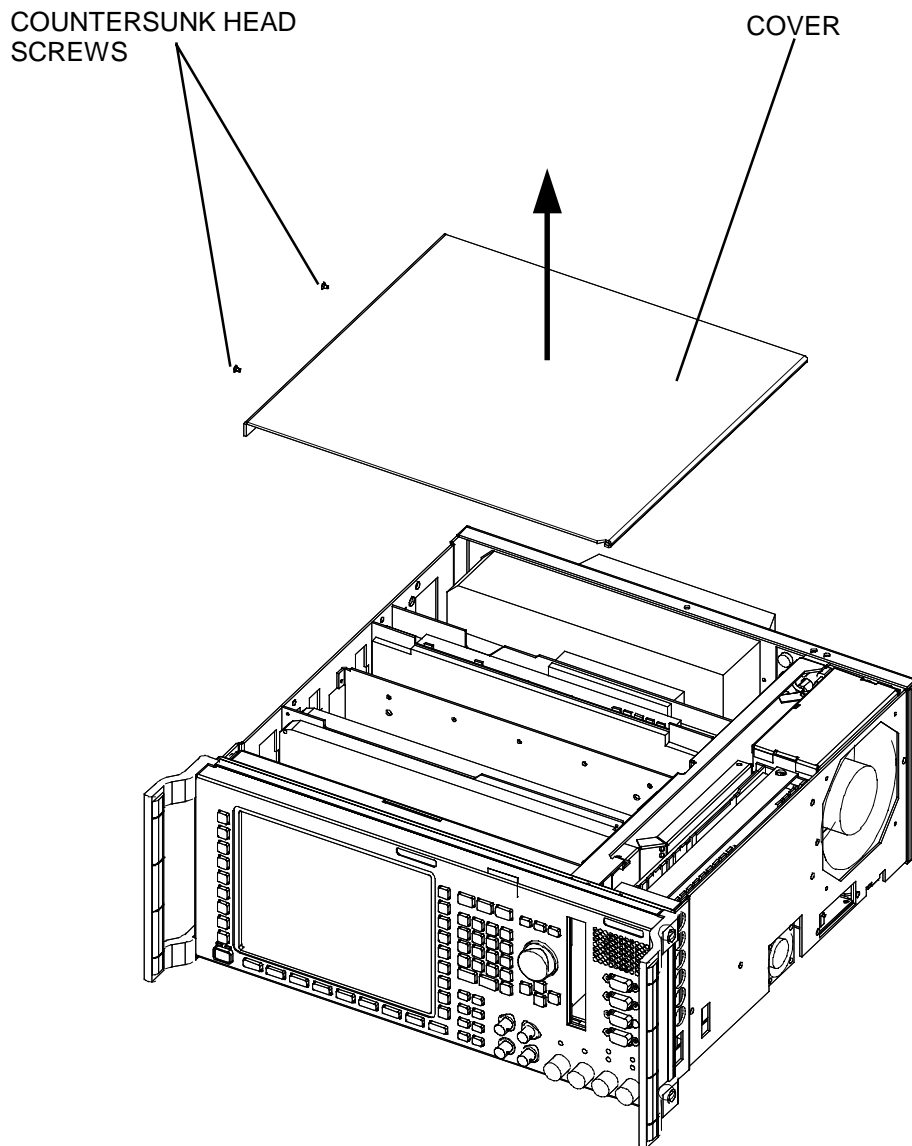

Fig. 2
- Affix OPTION INCL. label on power supply unit (Fig. 2).